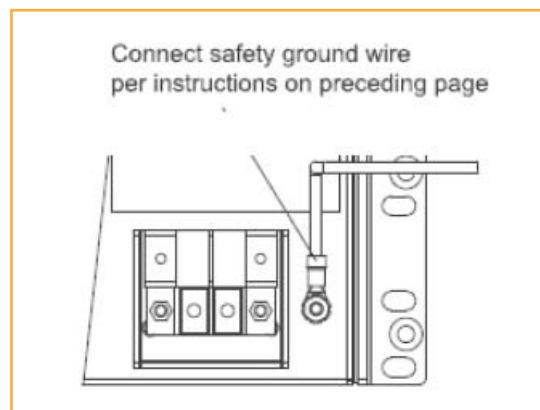
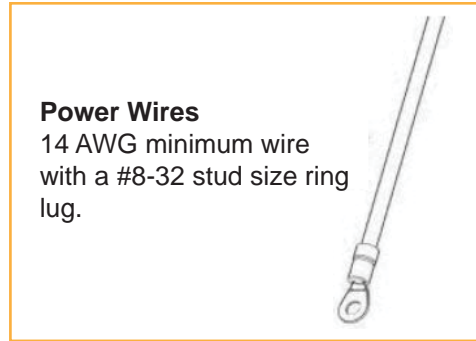

Figure 31. Grounding Wire Connection
Figure 32. Power Wires and Studs
- 2 Connect the safety ground wire as previously explained and shown in Figure 31. Use 14AWG minimum wire with a #8-32 stud size ring lug as shown in Figure 32 on page 125.